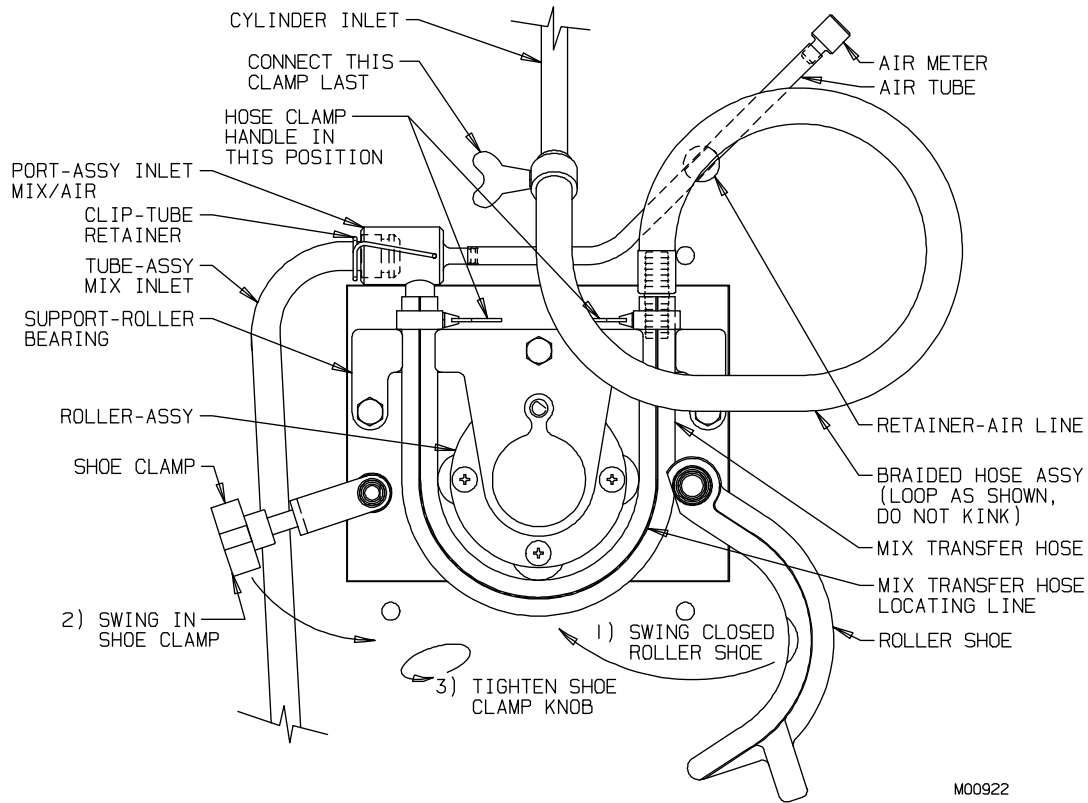

Figure 7-7 MTS
20. Refer to figure 7-7. Install the MTS hose assembly by placing the transfer hose under the rollers stretching the hose until the clamp on the right side is above the roller bearing support and push hose into the slot. Then stretch the hose so the left hand clamp is above the roller bearing support and push hose into the slot.
21. Check to ensure the transfer hose is straight and centered on the roller assembly by observing the locating line. The line should be in the same position at the inlet and outlet guides of the roller bearing support, as shown in figure 7-7.